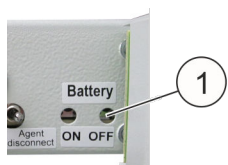

Fig. 16: Battery button
- Switch the batteries off prior to transporting the complete system: actuate the battery button "Battery OFF" (Fig. 16 /1).